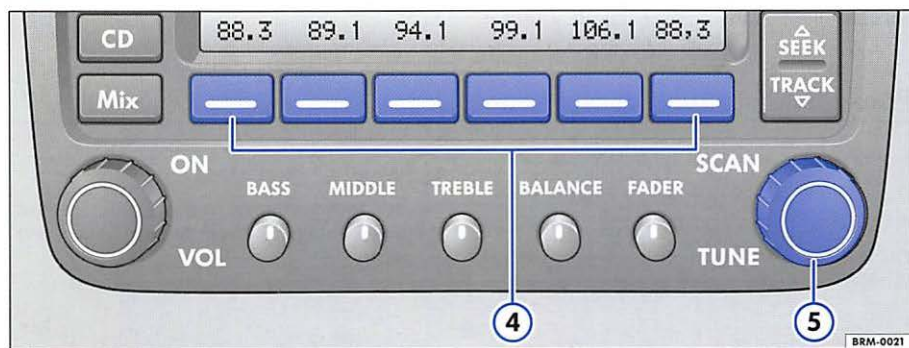

Fig. 28 Preset buttons
- Use the radio station preset buttons 1 to 4 ⇒ page 34, fig. 28 ④ to enter the code number found on your Radio Card. Use preset button 1 to enter the first digit in the code number. Use button 2 to enter the second digit, etc. The value range for each of the 4 digits is 0 ... 9. The digit will increase by 1 each time you tap the preset button. The number returns to 0 after 9.